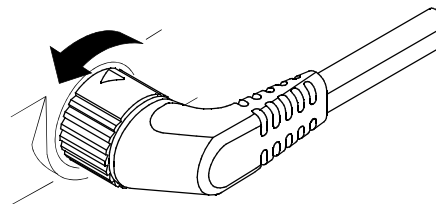

Figure 2-10 Disconnecting the Therapy Cable
- 1 Rotate the locking ring on the therapy cable in the direction of the arrow (counterclockwise) until it stops (refer to Figure 2-10).